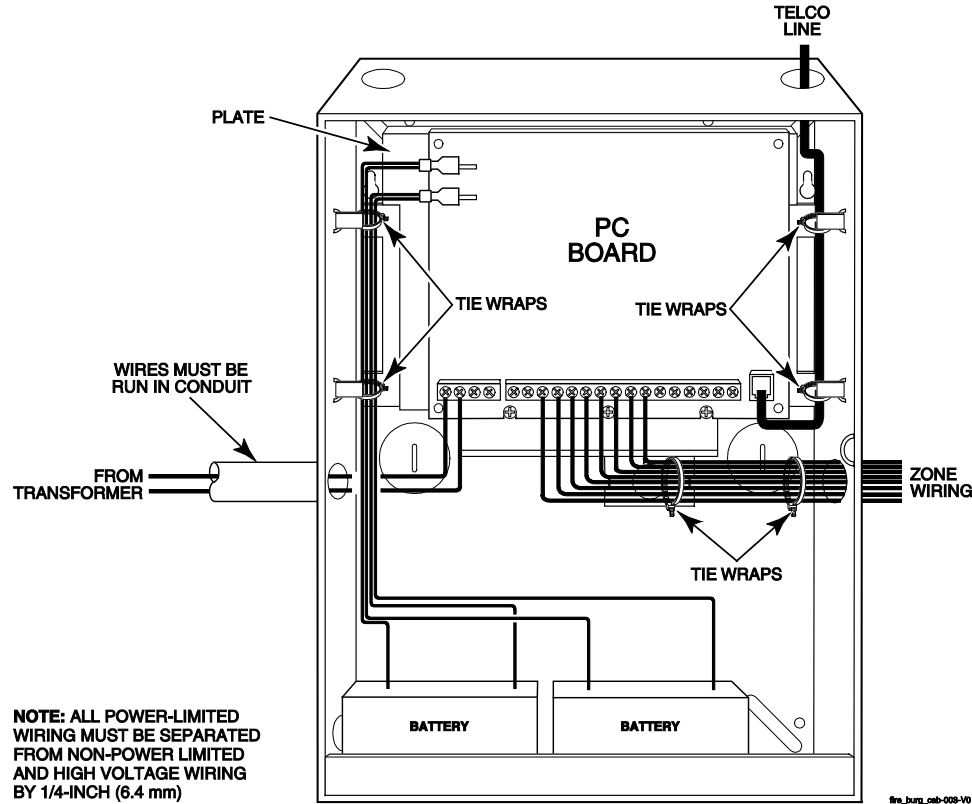

Figure 3-3: Commercial Fire Installation Considerations
For Commercial Fire installations, the following requirements apply (See Figure 3-3).
- Dress field wiring away from the microprocessor (center) section of the PC board. Use the mounting plate brackets on the left and right sidewalls of the cabinet for anchoring field wiring using tie wraps (Figure 3-3). These steps are important to minimize the risk of panel RF interference with television reception.